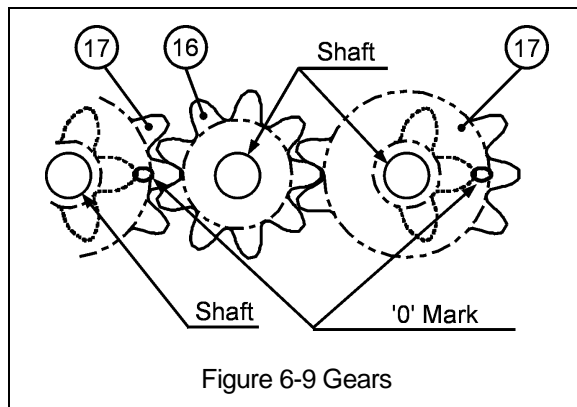

Figure 6-9 Gears
- 1) For LB020 to LB090 hoists, attach (18) Load Gear to the serrated part of (19) Load Sheave. If necessary use a plastic or rubber hammer to make the load gear is fully seated on the Load Sheave.
- 2) Insert (16) Pinion into (19) Load Sheave and install (17) Gear #2 as shown in Figure 6-9. Gear #2 must be timed with the "0" marks as shown for the gears to rotate freely.